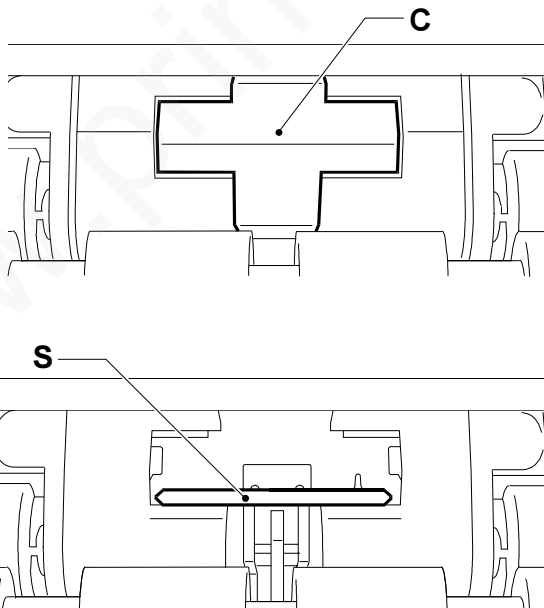

Fig. 7-52
- 3) Take the fax machine back to the starting position, remove lid **C** and extract sensor **S** upward (Fig. 7-52):